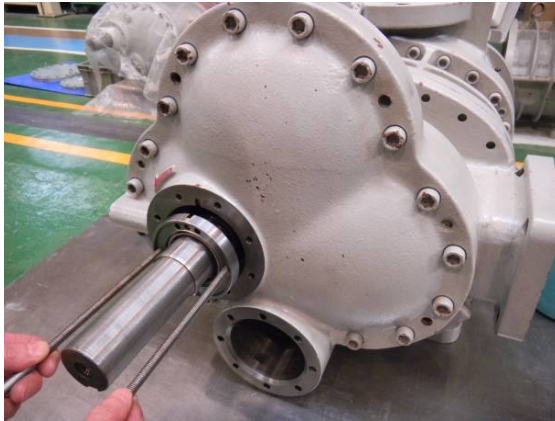

Fig. 081 Oil Seal Retainer and Oil Seal
- Attach the oil seal retainer with the oil seal attached to the rotor axis using 2 standard 8mm eyebolts as shown in Fig. 081. At this time, ensure that the retainer's oil hole is on the upper side of the rotor axis, and accurately align the spring pin **[20]** for stopping rotation on the bearing cover with the retainer notch part.